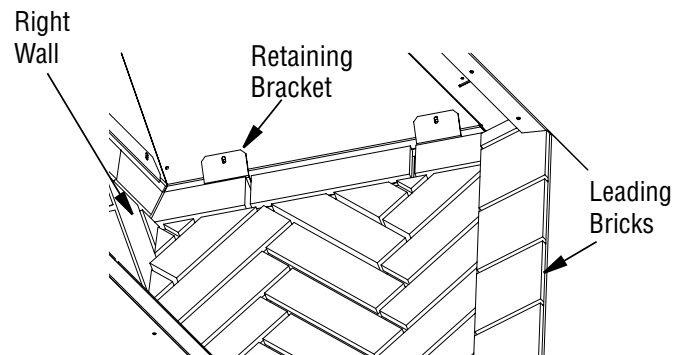

Figure 30 - Installing Side Walls
3. Secure the firebrick wall using two of the side retaining brackets provided. The bracket will slip underneath the metal lip on the top of the wall and screw into the inner dome of the fireplace (Figure 30).